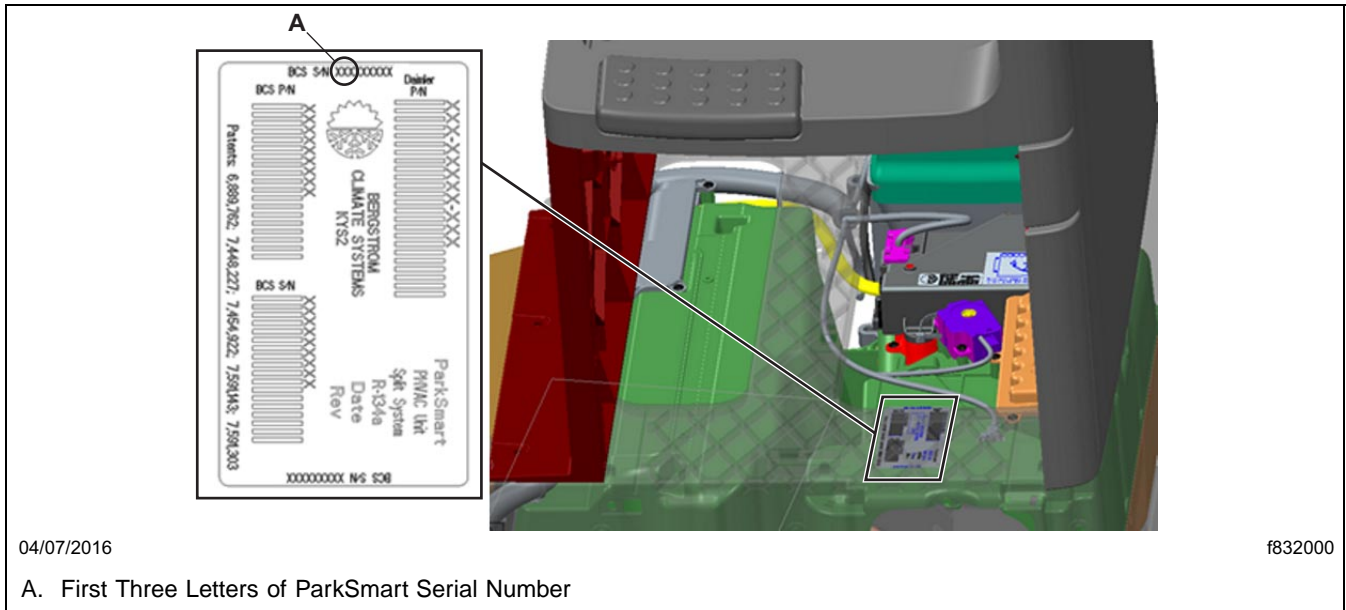

Fig. 2, ParkSmart Serial Number Location (typical, some stickers may be to the left)
4. Check the ParkSmart serial number. See **Fig. 2** for number location, and **Table 3** for number identification.